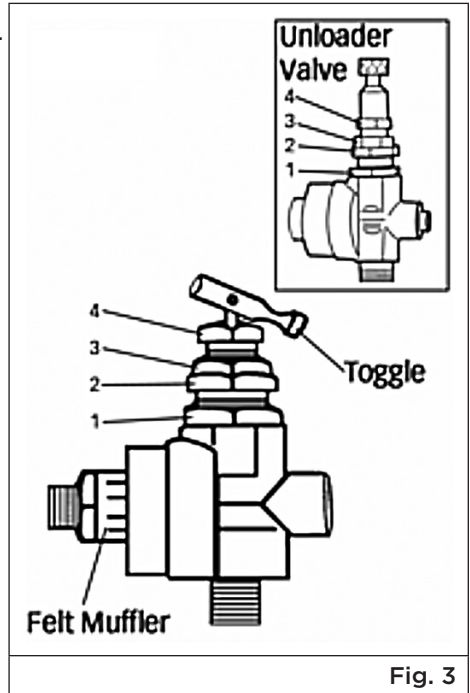

Fig. 3
Make sure the top toggle lever is positioned as shown (Figure 3). Loosen locknut (1) by turning counterclockwise several full turns. Gently turn differential setting (2) clockwise only until the internal rod makes contact with the steel ball inside. After making contact, turn differential (2) counterclockwise 1/4 turn. Secure position by tightening locknut (1) and proceed to Top-End Setting.